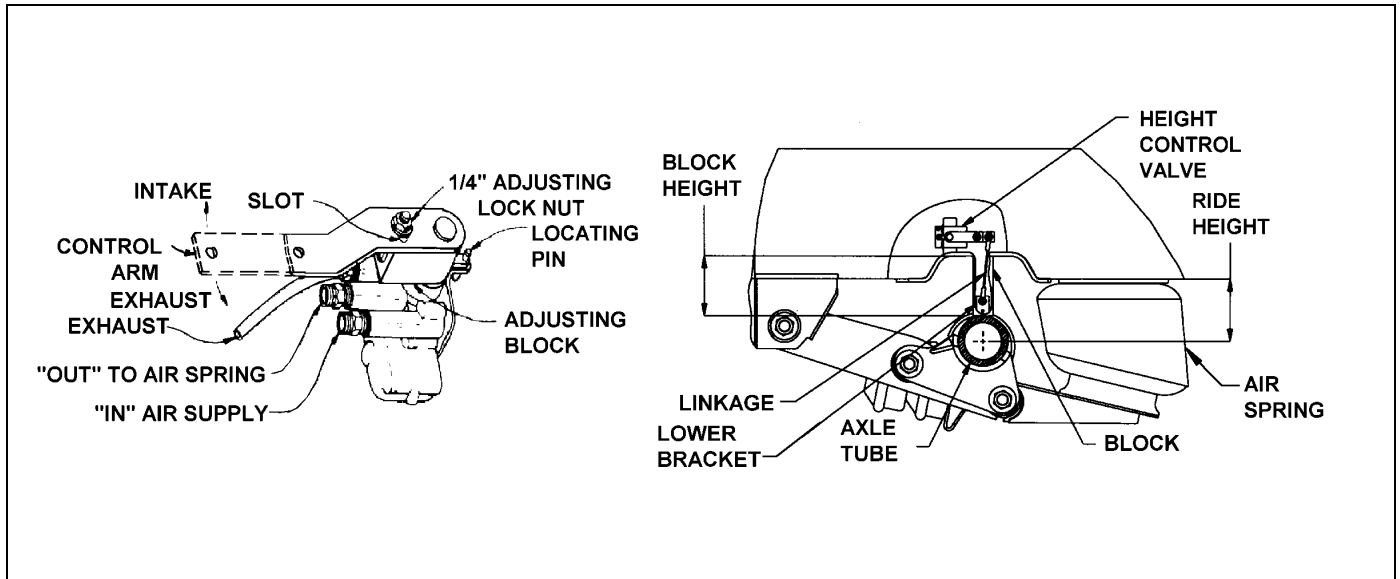

Figure 4-5: Air Ride Height Adjustment
2. Disconnect linkage at the control arm and raise control arm to the "up" position, raising the trailer until a block can be placed between axle tube and undercarriage frame (**See Figure 4-5.**)
6. Loosen the 1/4" adjusting lock nut located on the adjusting block, allowing the control arm to move approximately 1 inch. Move the adjusting block until holes align, then insert locating pin (**See Figure 4-5.**)